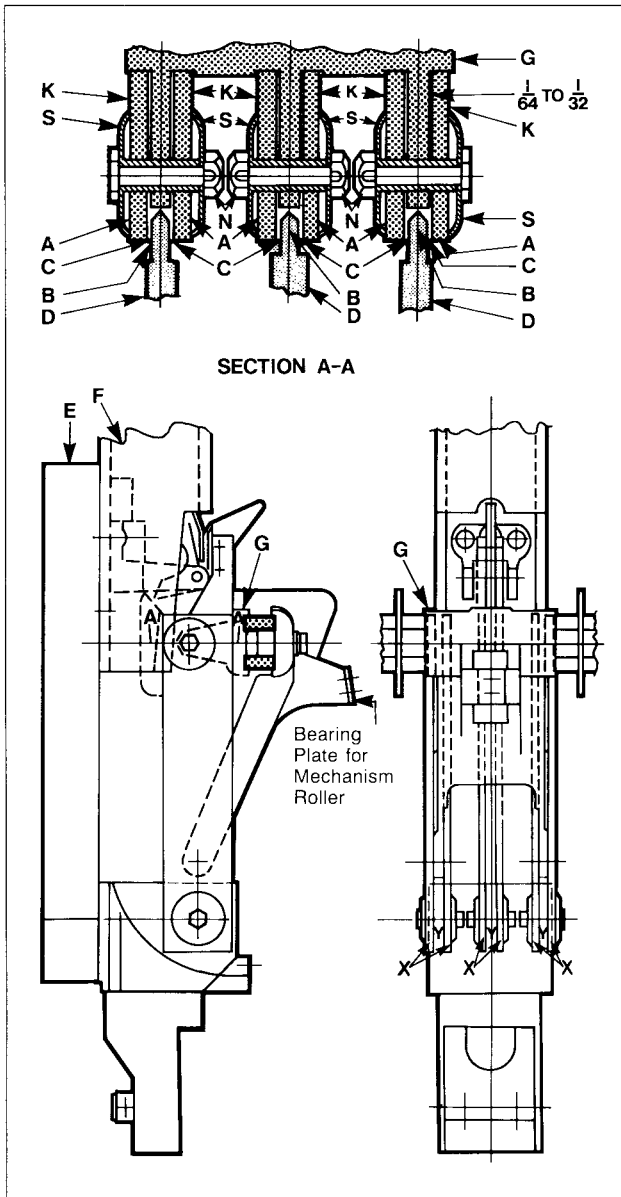

FIG. 15 2500 and 3500 Ampere Moving and Stationary Contact Assembly
1. The 2500 and 3500 ampere CM-22 network protectors have a blade type contact construction as shown in FIG. 15.